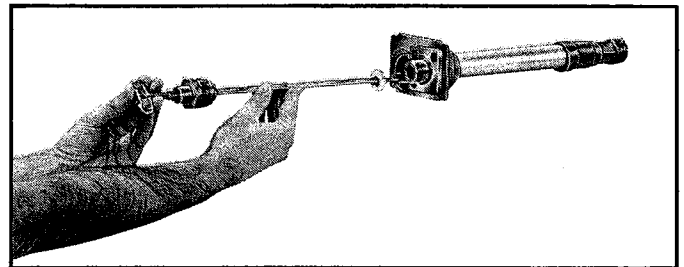

FIGURE 4
B. Use pliers. Firmly grip Cap Retainer (8) and turn counterclockwise to remove it, then remove Deflector Cover (7). *Shut off hydrant as tight as possible with Control Key (1) and use an adjustable open end wrench or channel-lock type pliers to "break" Draw Nut (11) loose, then remove it with Control Key (1), turning counterclockwise until threads are free from Hydrant Head (12). Grasp Draw Nut (11) firmly and pull toward you to remove Actuator (2) and Actuator Rod (3). See Figure 4.*